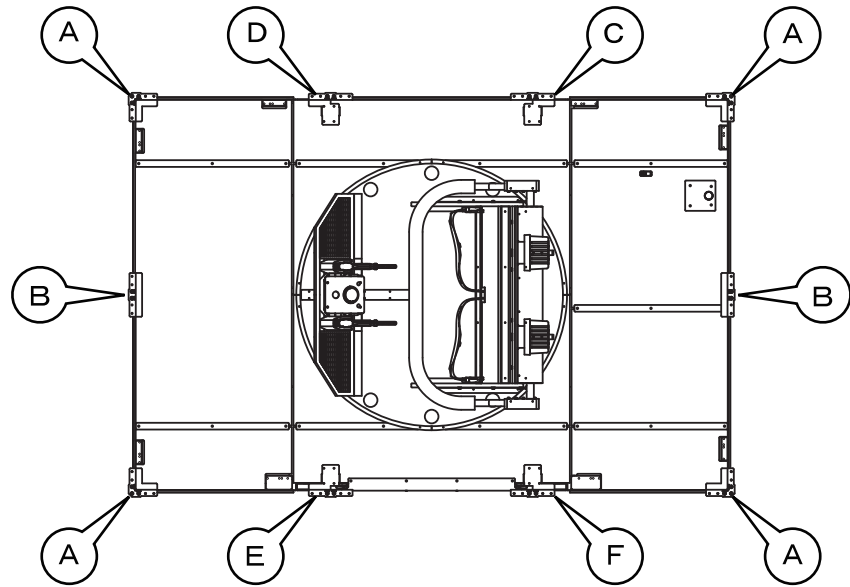

FIG. 6-2 Pillar Positions
**5** Attach pillar to base. Align with positions shown in Figure 6-2. Insert pillar from above into pillar attachment part at base.